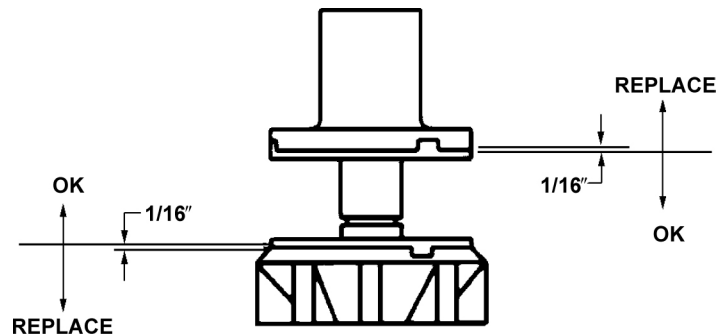

Figure 12. Upper Nut and Bearing Assembly
7. Check white upper bearings on auger assembly. If bearings are less than 1/16" thick, replace. See Figure 12.